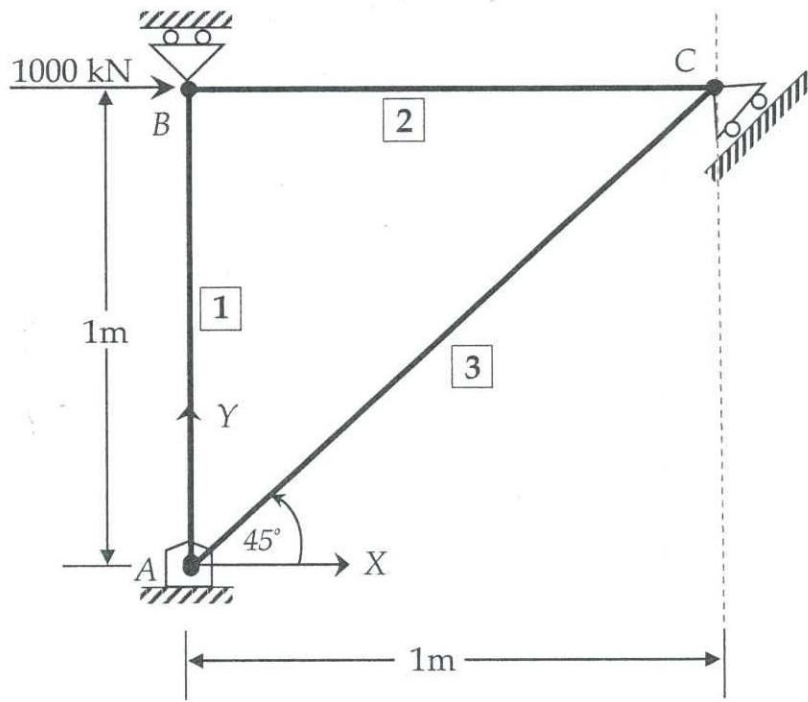

Fig. Q4
Q4. Pin-jointed 2D truss is pinned supported at Node A and roller supported at Nodes B and C as shown in Fig Q4. The Young's modulus $E = 200 \text{ GPa}$ for all three elements and cross-section area $A = 6 \times 10^{-4} \text{ m}^2$ for element (1) and (2), $6\sqrt{2} \times 10^{-4} \text{ m}^2$ for element (3). The truss system is subjected to a horizontal force of 1000 kN at Node B.